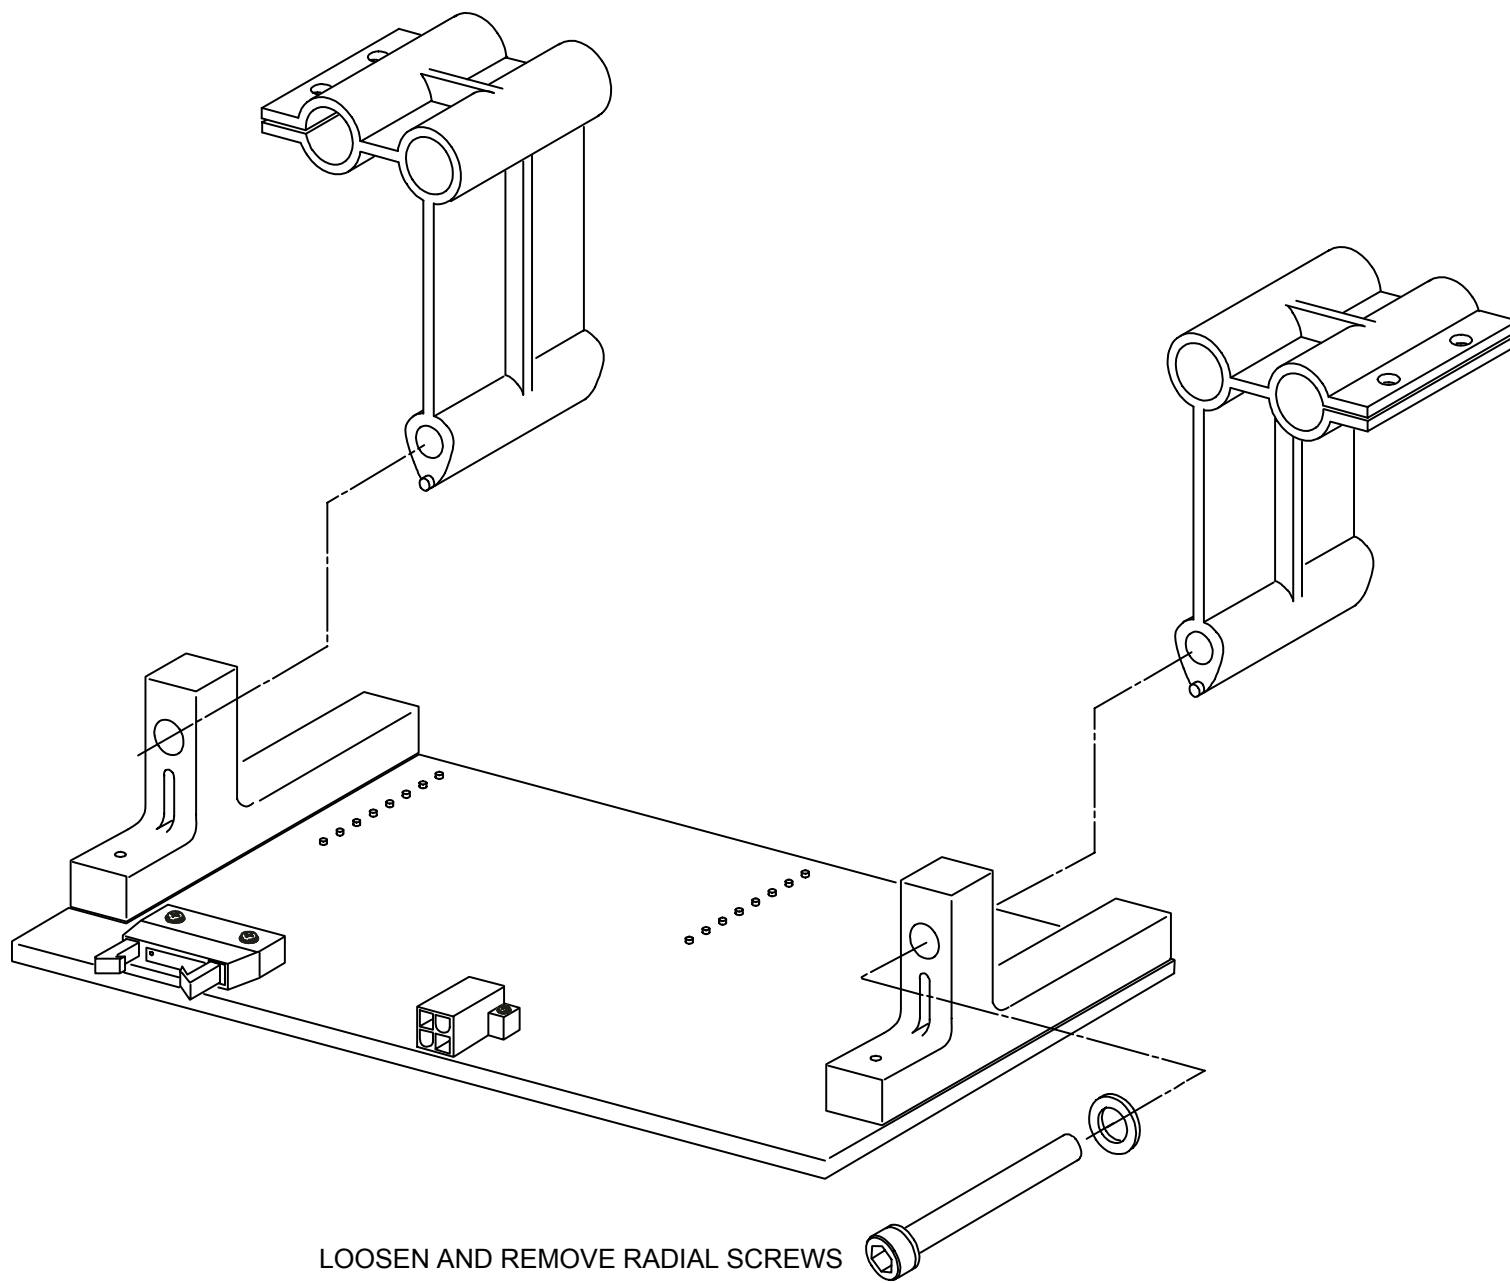

FIGURE 308 SIGNAL BRUSH BLOCK
14. Remove the two Socket Head Mounting Screws that attach the Brush Block to the Mounting Brackets. Refer to Figure 308.